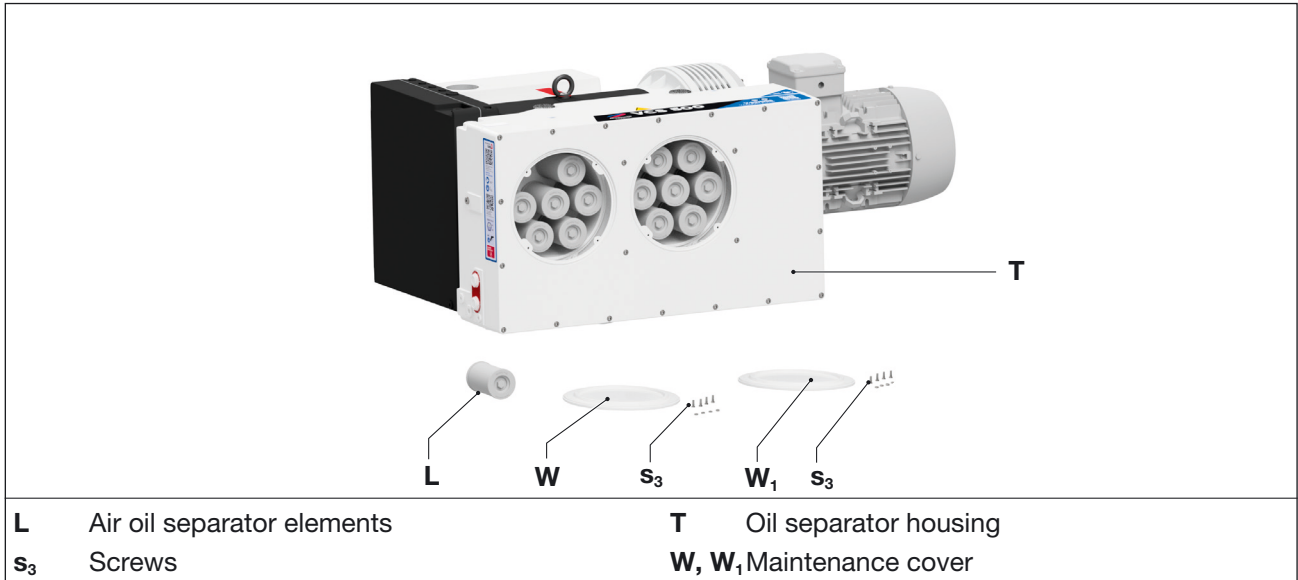

Fig. 10 Air oil separator elements
- Loosen the screws (Fig. 10/S3) on the maintenance covers (Fig. 10/W, W1) and remove the maintenance covers.
- Unscrew oil separator elements (Fig. 10/L) with a ring spanner (width across flats 19 mm or 3/4") counter-clockwise.